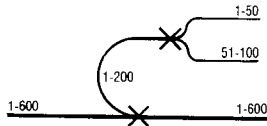

Fig. 10—Example of Bridged Main Splice and Transfer Splice.
- a. This splice provides a tagged access to a main feeder cable count by the use of a stub. Future distribution additions, transfers and rearrangements can be made without reentering main cable splices. See Figure 10, 11 and 12.